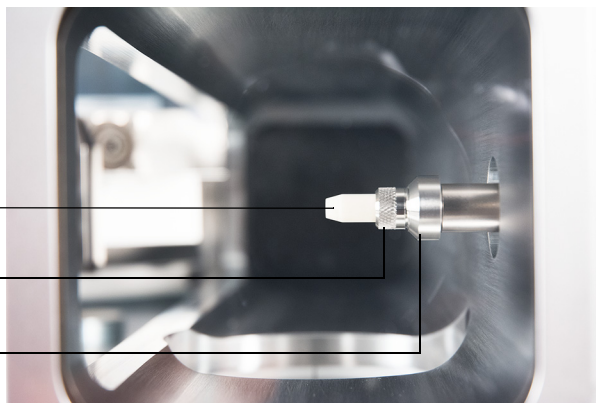

Figure 18. Interface tip seal
- 1 Verify that the CI source, EI XTR source, or HES is installed. This tip seal and its spring must not be installed when an EI SS or Inert source is installed. (See Figure 18.)